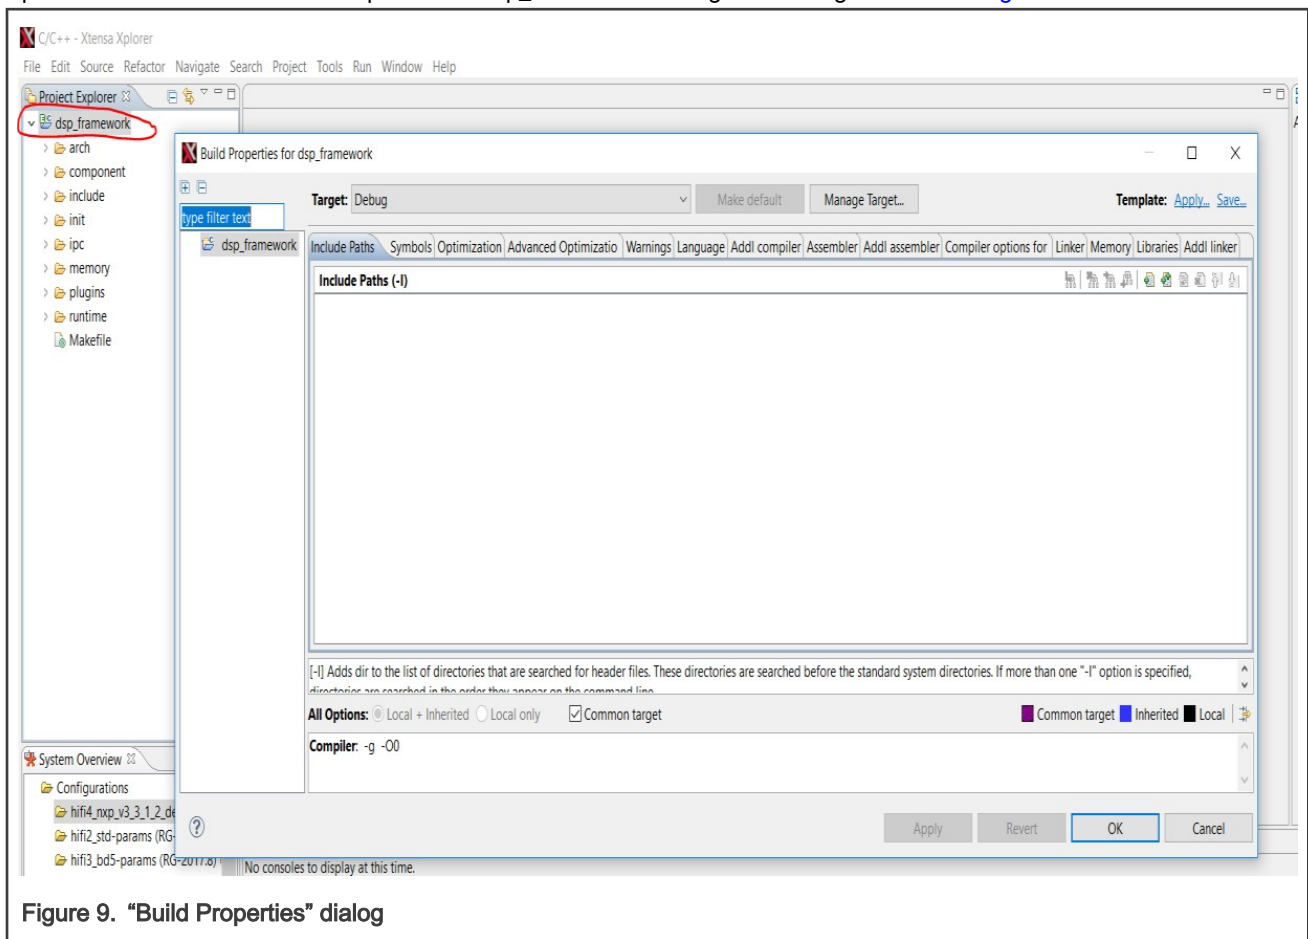

Figure 9. “Build Properties” dialog
- Right-click the name of the DSP framework project in the “Project Explorer” panel and choose the “Build Properties...” option. You will see the “Build Properties for dsp\_framework” dialog. The dialog is shown in Figure 9